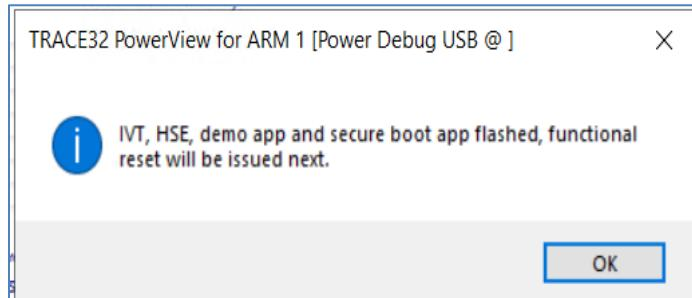

Figure 30. Pop-up informing user of completing of loading images
- After functional reset is issued, the user should check the firmware install status by selecting “FW install status” from the main “User” menu. Depending upon the type of HSE FW selected while installing, either “Full Mem HSE FW installed” or “AB SWAP HSE FW installed” pop-up is displayed, one of which, is shown in Figure 30.